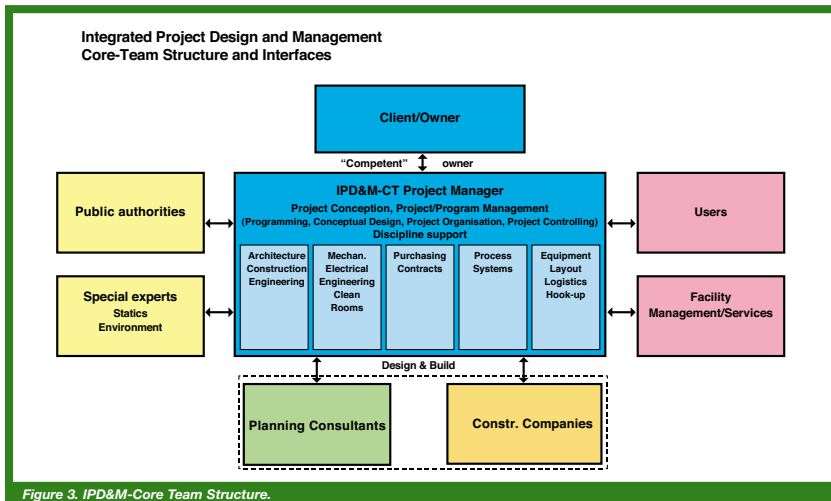

Figure 3. IPD&M-Core Team Structure.
The Integrated Project Design and Management concept (IPD&M) provides an alternative approach with significant benefits. According to specific requirements, a dedicated, highly experienced IPD&M Core Team (Figure 3) is formed to design, coordinate and manage all efforts from the very start of the project to the final delivery of the completed facility. The Core Team (CT) begins to work in the project definition and design phase. Many key decisions are made during this early phase and cost-saving potential is at its highest. Changing key